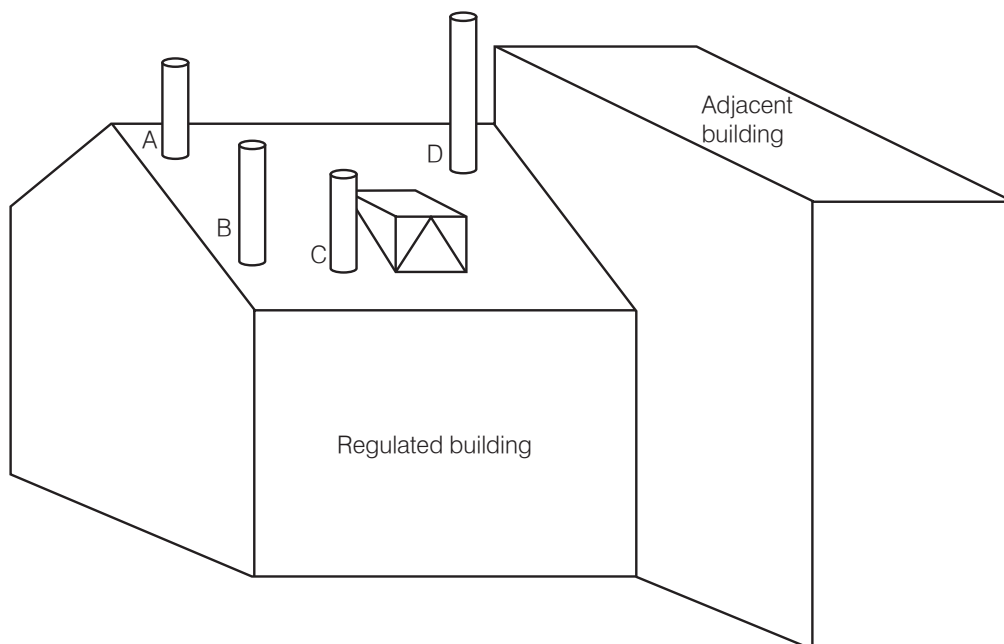

Figure 7-1: Flue terminal positions
- The flue terminal should be located in a draught free area, i.e. above the roof, where it can discharge freely and not present a fire hazard whatever the wind conditions. The flue outlet positions shown in Figure 7-1 (from Approved Document J) can meet this requirement.
- The heights and separation distances shown in Figure 7-1 may have to be increased in particular cases, e.g. where high wind exposure, surrounding tall buildings, or adjacent trees can cause adverse wind effects.